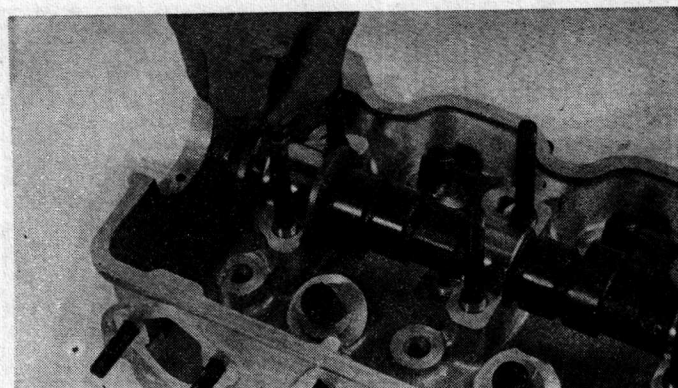

Fig. 53 Checking the Camshaft End Play
(2) Check the camshaft end play. If the play exceeds the service limit, replace the camshaft or the cylinder head assembly that is worn larger. (Fig. 53)